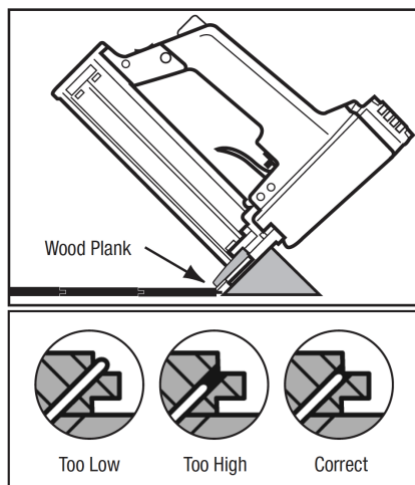

Figure 8
- Set compressor at 70 PSI. If tongue damage occurs, lower air pressure (**Figure 8**).